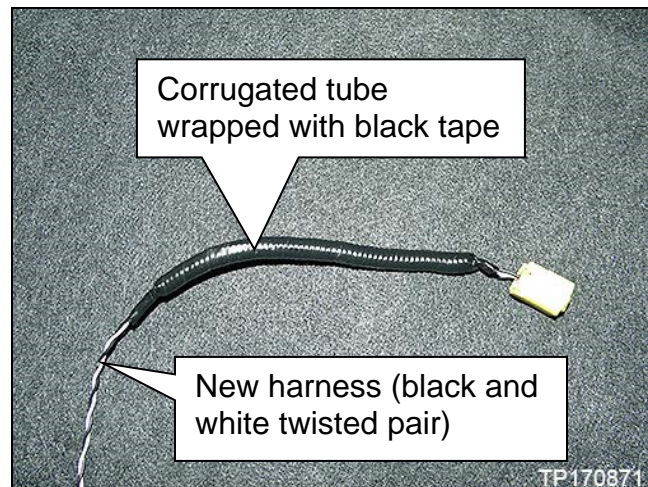

Figure 54
46. Wrap the corrugated tube and new harness with tape provided in harness kit as shown in Figure 54.